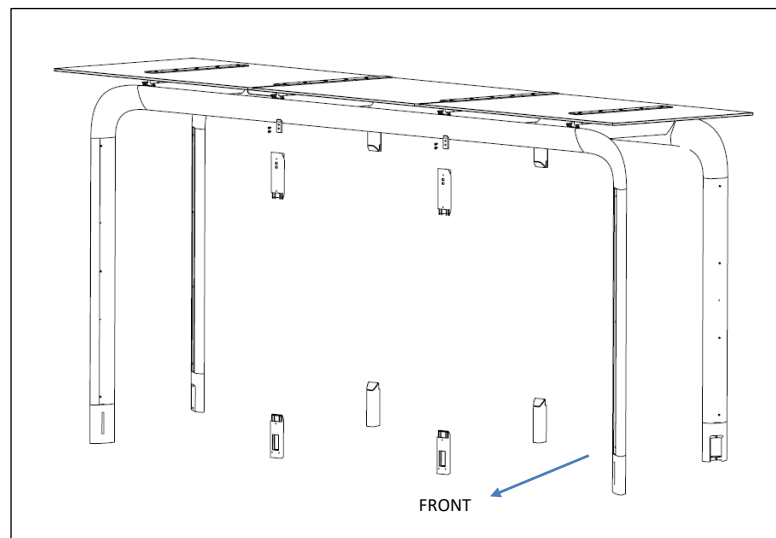

Fig. E3 – glass post orientation
2. Attach upper posts to horizontal beams and check for level – note orientation, see Figs. E3 and E4. Securely tighten.